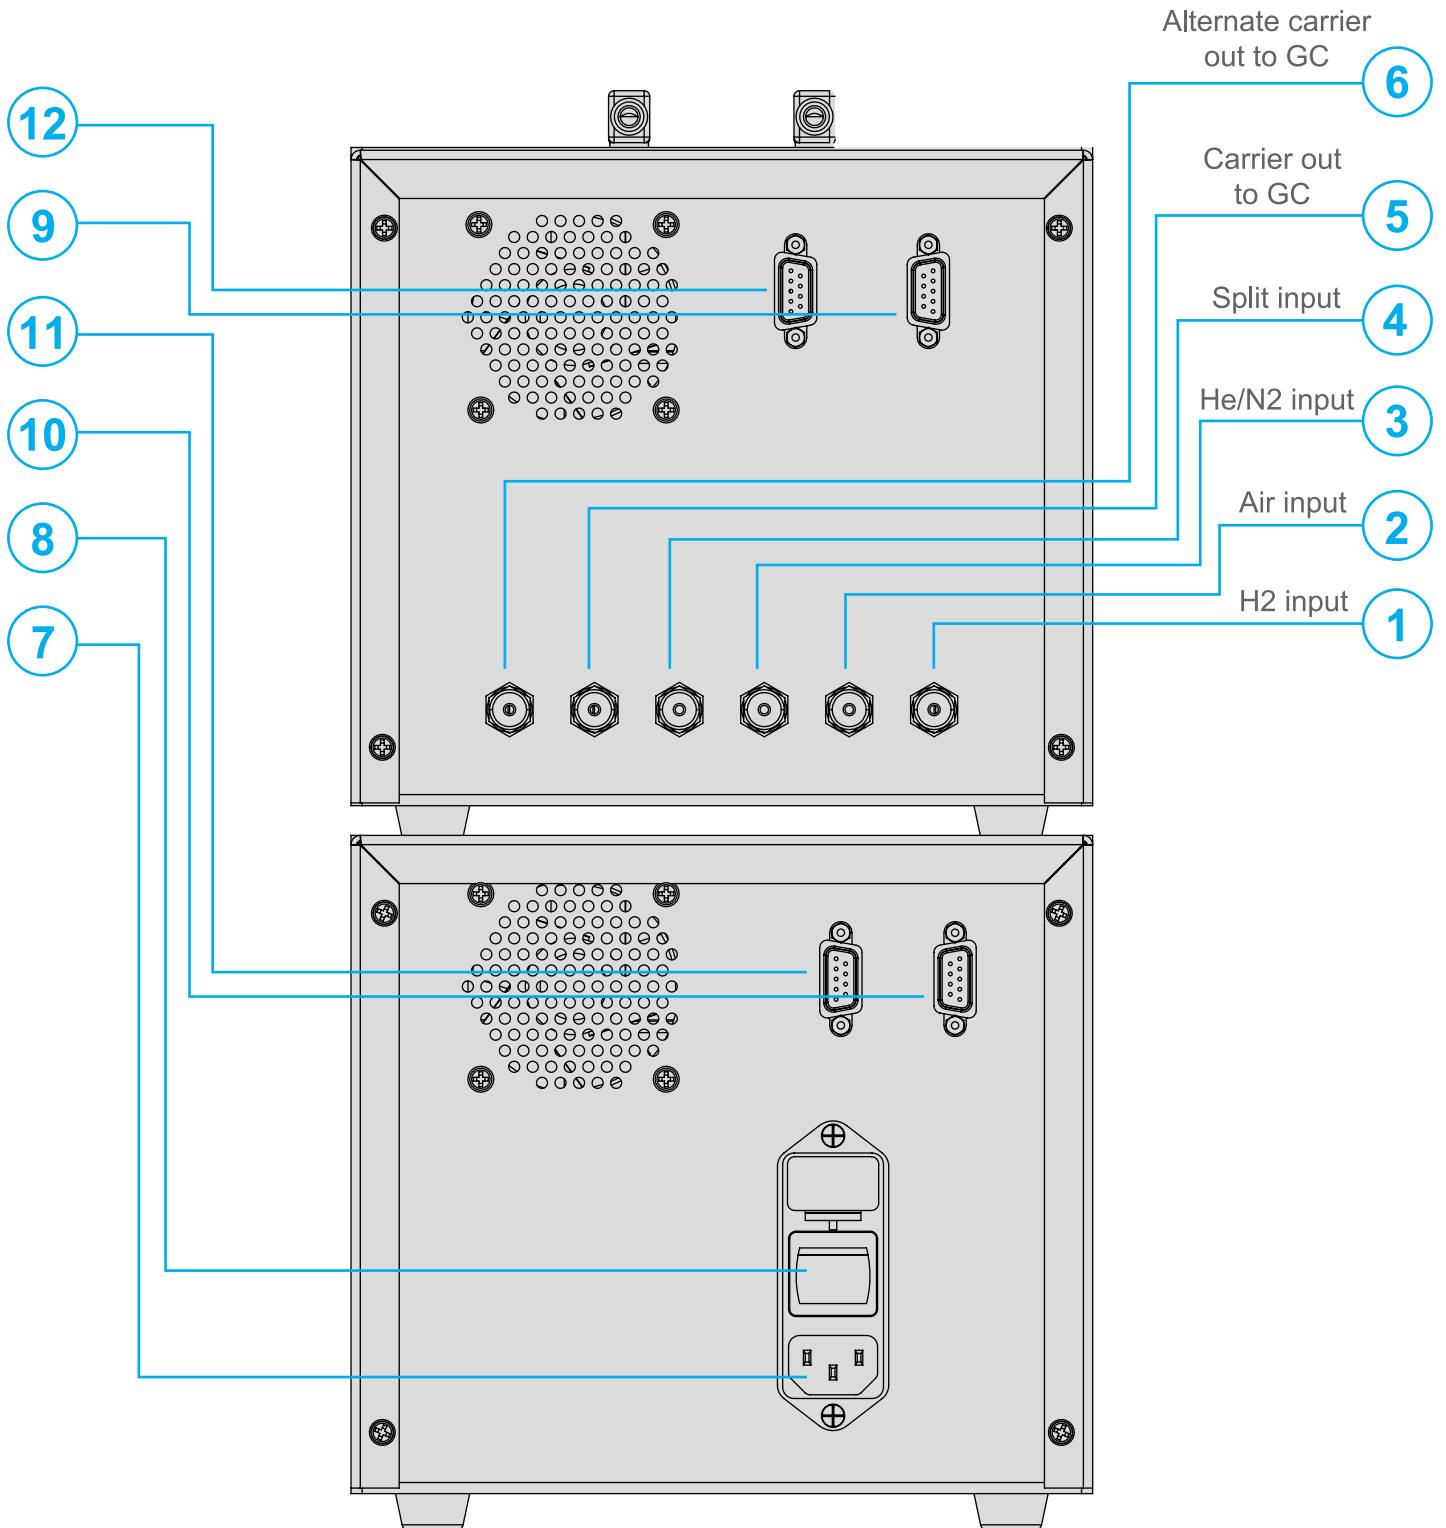

Figure 1
Refer to Figure 1
1. Switch on the UCS-1000 (Figure 1, #8) and wait for the operation screen – see example of the startup screen below (Figure 2)